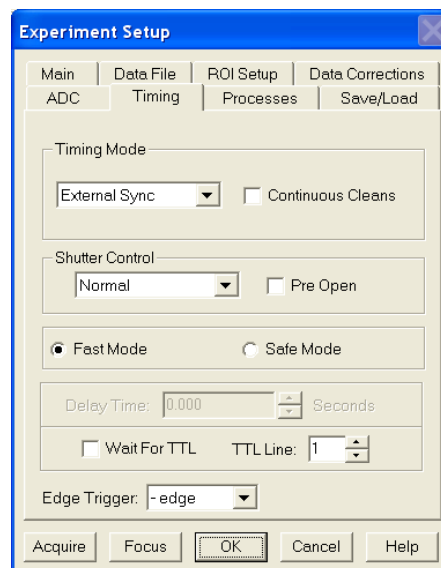

Figure 22. Timing tab
- On the **Timing** tab (Figure 22) set the following parameters.